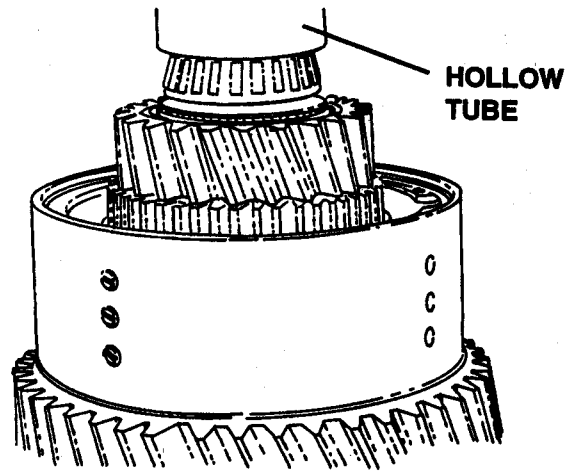

Figure 39.
- Install High Gear/Clutch Housing (51).
9. Install needle roller bearing (53). Install one thin thrust washer (50), one thrust bearing (49) followed by one thick thrust washer (54).
10. Coat the high clutch end bearing (55) with high pressure grade grease and press bearing (55) onto shaft.
11. Install piston ring seals (56).
12. Repeat steps 1 through 11 for the opposite clutch, make sure that the low clutch and taper roller bearing are coated with grease. Fit the bearing using a hollow tube as shown in Figure 39 and then fit the piston ring seal.